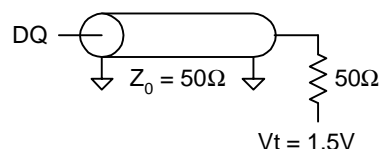

Fig. 1 OUTPUT LOAD EQUIVALENT
Output load	See Figures 1
5. Test conditions as specified with the output loading as shown in Fig. 1 unless otherwise noted.
15. Capacitance derating applies to capacitance different from the load capacitance shown in Fig. 1.